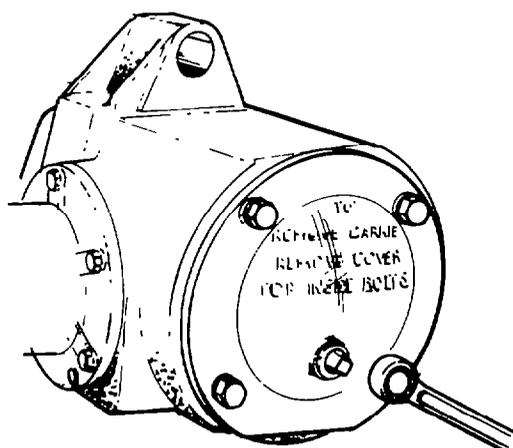

Fig. 280 — Removing Carrier Side Cover Bolts
- a. Remove the retaining bolts from the carrier side cover and remove the cover (see fig. 280).